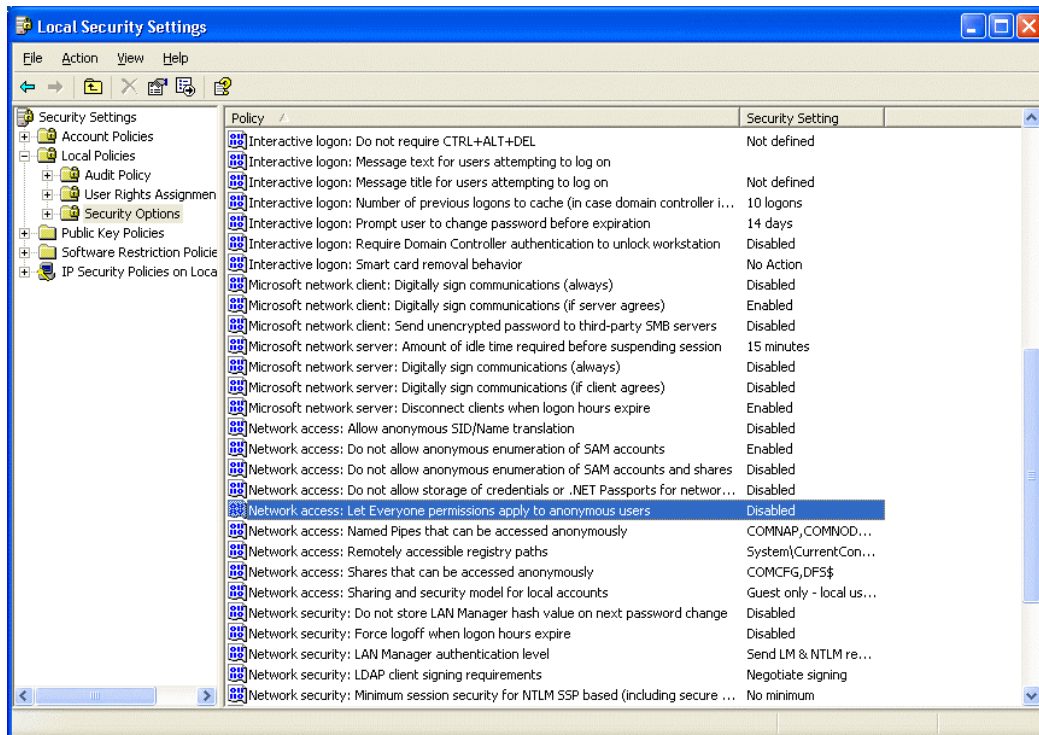

Fig. 6.3-14 Local Security Settings Window
5. Double click on **Local Policies**, and then **Security Options**. (Shown in Fig. 6.3-14.)
6. Double click on **Network access:Let Everyone permissions apply to anonymous users.** (Shown in Fig. 6.3-14.)